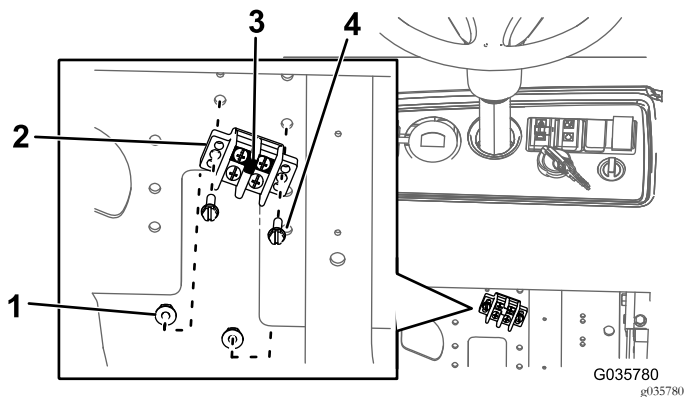

Figure 14
- A. Install the jumper strip to the ground block (Figure 14).
- B. Install the ground block to the mount plate using 2 bolts (#10 x 3/4 inch) and 2 nuts (#10) as shown in Figure 14.